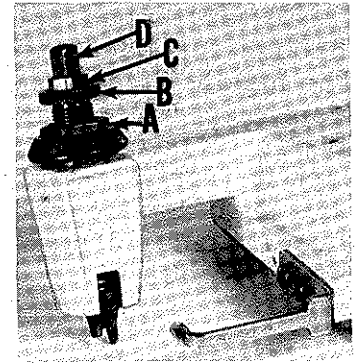

Fig. 2
Sufficient presser foot pressure to feed work uniformly should be maintained. Should it be necessary to increase or decrease amount of pressure on presser foot, loosen lock nut (A, Fig. 2) and turn adjusting screw (B). Adjusting screw has a righthand thread, so tightening increases pressure, loosening decreases pressure. When pressure adjusting screw (B) has been properly set, tighten lock nut (A). With presser foot resting on throat plate, position locking nut (C) so that its under surface is approximately 1/32 inch to 1/16 inch from the top surface of adjusting screw (B). Set cap (D) against locking nut (C).